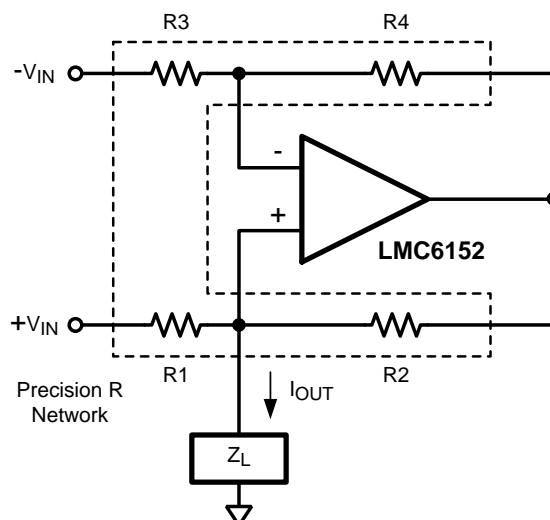

Figure 10. Basic Howland Current Pump with Precision Resistor Network
4. Buy matched sets of tightly-matched resistors. These can be purchased in sets of 4 for a couple dollars, in an SOIC package, such as four 10k resistors matched to 0.1% or even to 0.01% of ratio. See Figure 10. Resistors such as Caddock T914's (in SIP packages) can be found at: www.caddock.com/Online_catalog/Mrktg_Lit/TypeT912_T914.pdf These are available with matching down to 0.01%. Resistors such as Vishay Beyschlag ACAS 0612's are at www.vishay.com/ The catalog lists these as good as 0.1% matching, in Surface Mount packages. Bourns has thin-film networks in DIPs (4100T Series) and in surface mount packages (4400T Series) at: www.bourns.com/. Their tolerance is better than 0.1% but the matching specs are not listed.